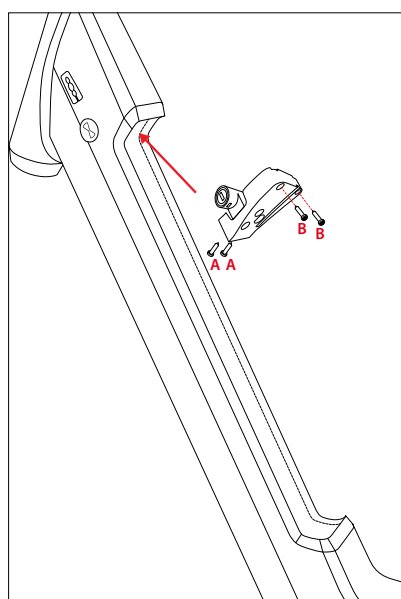

Figure 4.34 Lock iassembly 2
1. Install two M3x8 fasteners [A] on the bottom side of the plastic part of the lock (Fig. 4.34)
4. Attach the lock to the frame using two 2.9 x 25 mm self-tapping fasteners [B] (Fig. 4.34). Tighten the fasteners to 0,7Nm.